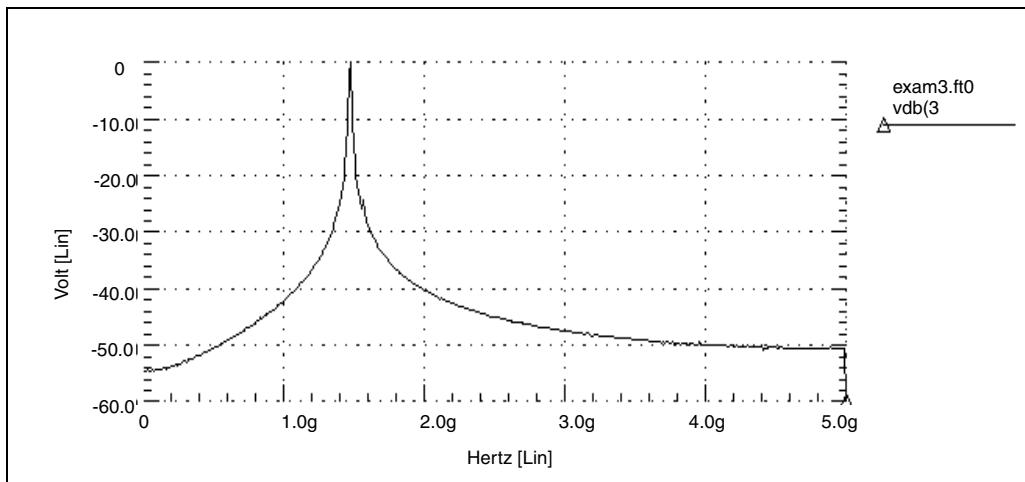
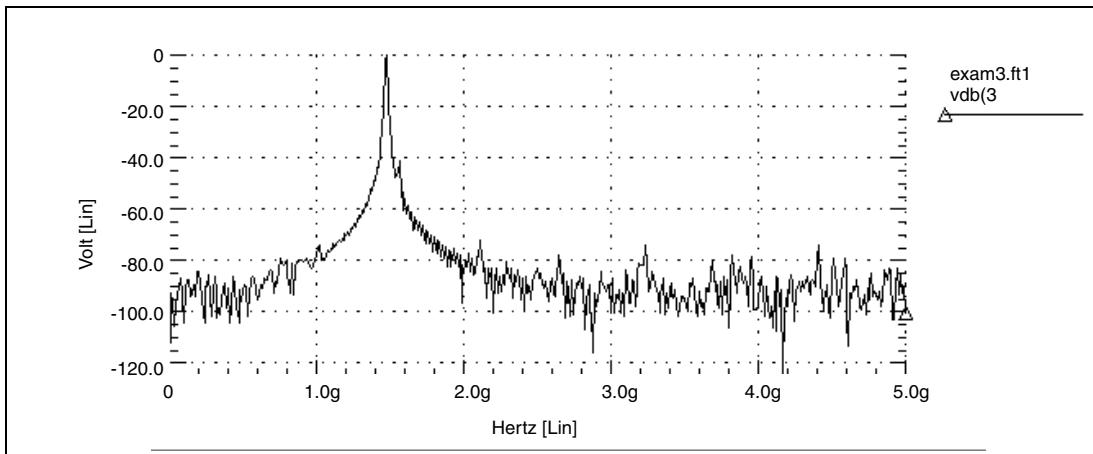
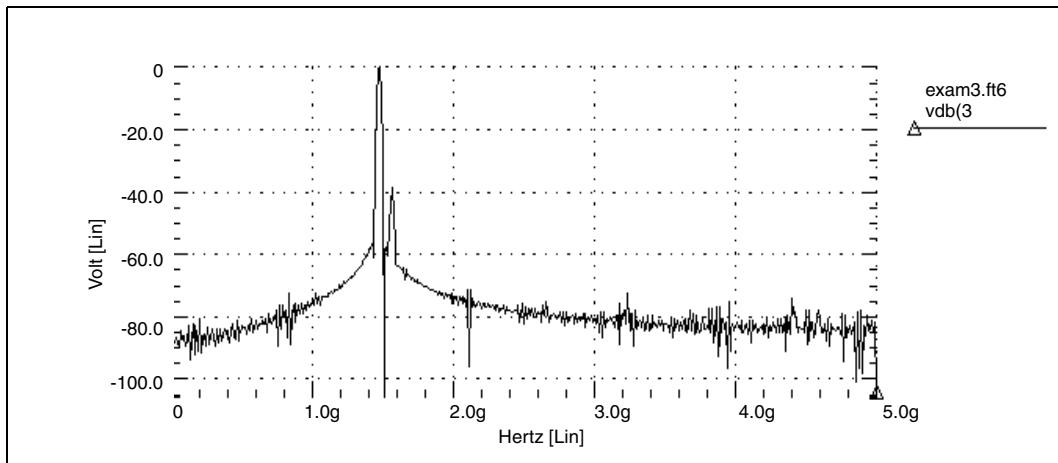
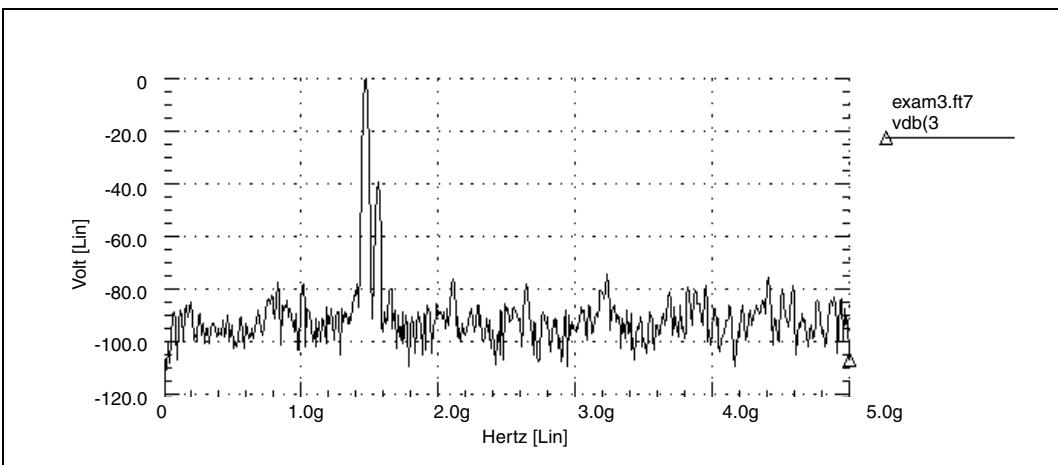

Figure 74 Mixer Output Spectrum, Rectangular Window
Figure 75 Mixer Output Spectrum, Bartlett Window
Figure 80 Mixer Output Spectrum, Gaussian Window
Figure 81 Mixer Output Spectrum, Kaiser-Bessel Window
Figure 74 shows the rectangular window. Compare this with the spectra of the output for all FFT window types, as shown in Figure 75 through Figure 81. Without windowing, HSPICE does not detect the weak signal because of spectral leakage.
- In the Bartlett window (Figure 75), the noise floor increases dramatically, compared to the rectangular window (from -55, to more than -90 dB).
- The final two windows (Figure 80 and Figure 81) use the `ALFA=3.0` parameter, which is the default value in HSPICE. These two windows also produce acceptable results, especially the Kaiser-Bessel window, which sharply separates the two tones, and has a noise floor of almost -100-dB.